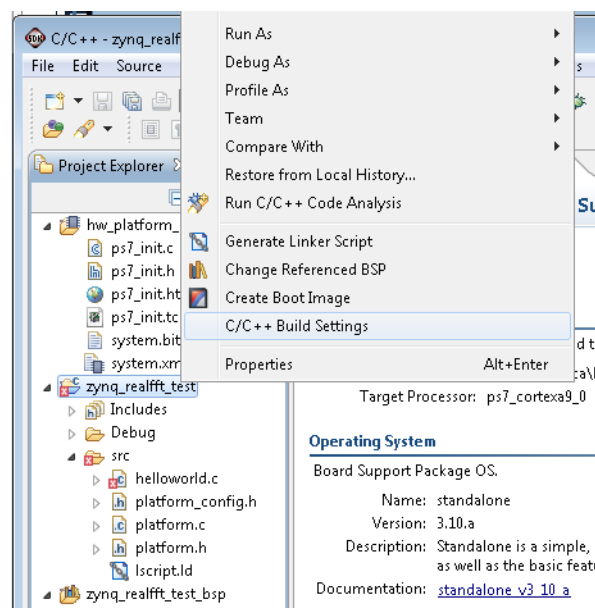

Figure 10-43: Specify C/C++ Build Settings
- a. Right-click the `zynq_realfft_test` project in the Project Explorer pane and select **C/C++ Build Settings** (Figure 10-43).